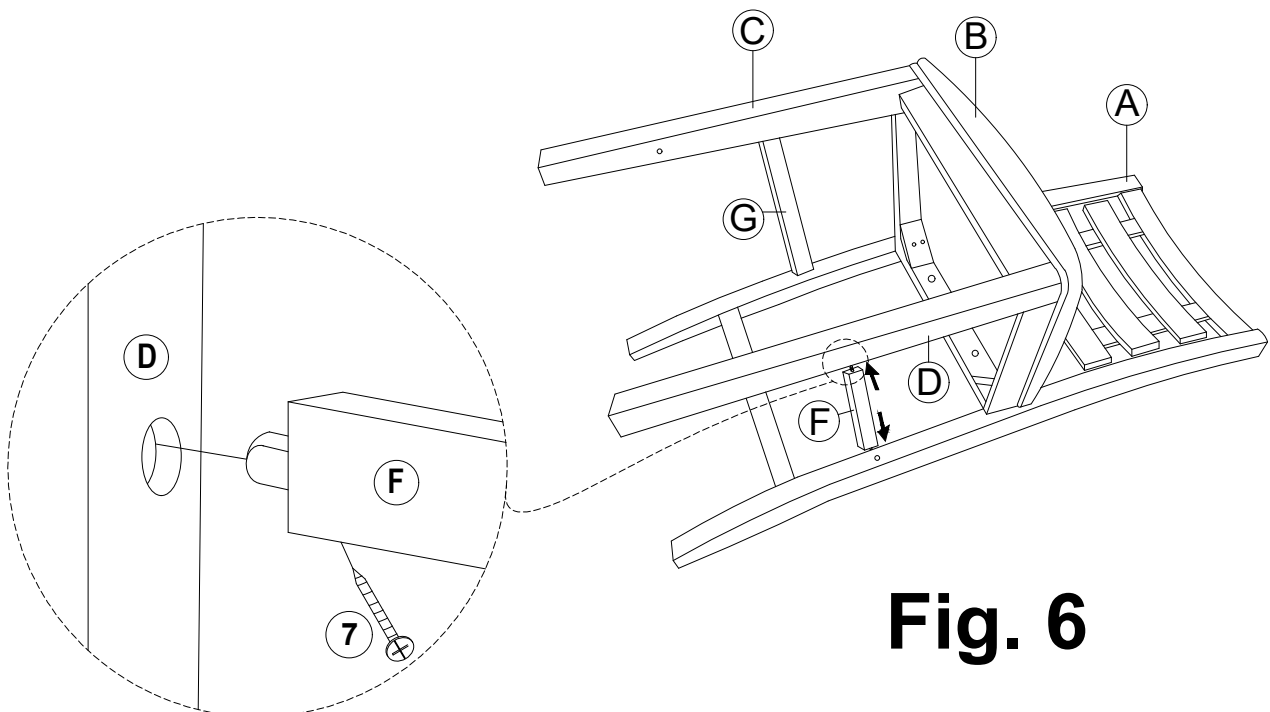

Fig. 6
Step 5: Attach Side Stretcher (F) to Front leg (D) and chair back (A) using the provided hardware as shown Fig.6.